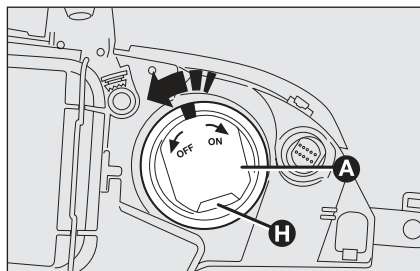
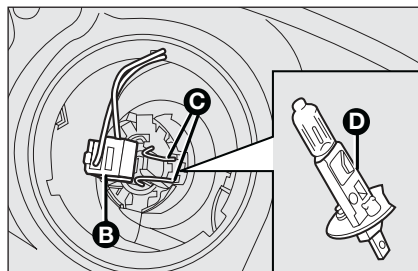

fig. 20
fig. 21
- turn the cap **A**-**fig. 20** anticlockwise and remove it;
- disconnect the electrical connector **B**-**fig. 21**;
- release the bulb catch **C**-**fig. 21**;
- remove the bulb **D**-**fig. 21** and change it;
- refit the catch **C**-**fig. 21**, connect the electrical connector **B** and fit the cap **A**-**fig. 20** turning it clockwise. Put the cap ventilation outlet **H**-**fig. 20** from the top downwards.